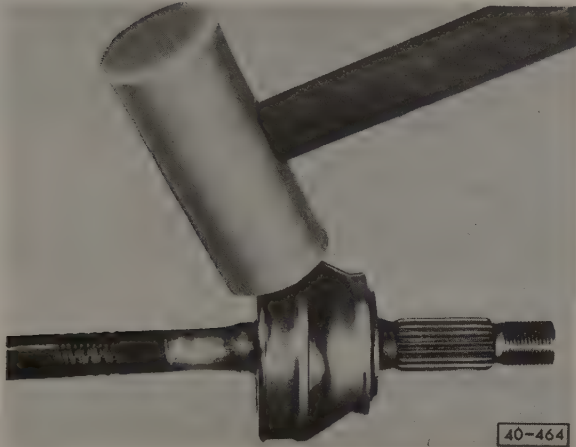

Fig. 5-5. Outer CV joint being driven off axle shaft with soft-faced mallet (shown with boot removed for clarity).
2. Clamp the shaft in a vise, and drive the joint off the shaft, as shown in Fig. 5-5, using a soft-faced mallet. Remove the thrust washer, the dished washer, and the circlip from the axle and inspect the shaft for wear.